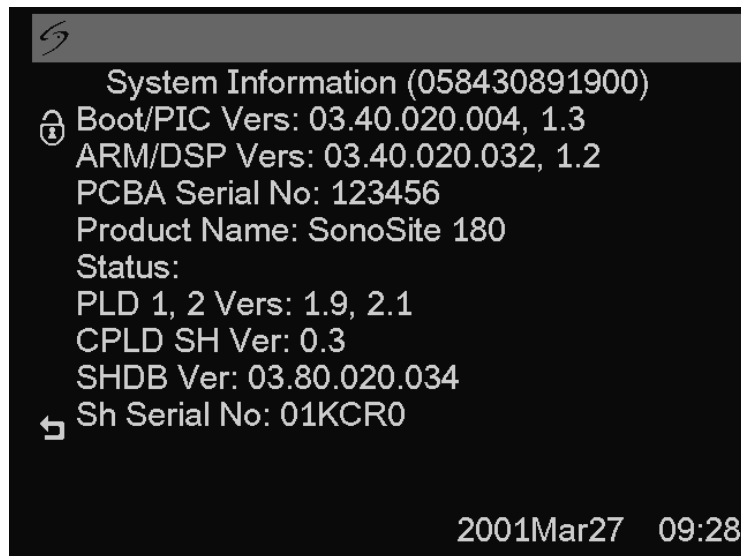

Figure 4.5 System Information Screen
- 2 Press and release **I**. The system information screen displays (Figure 4.5).